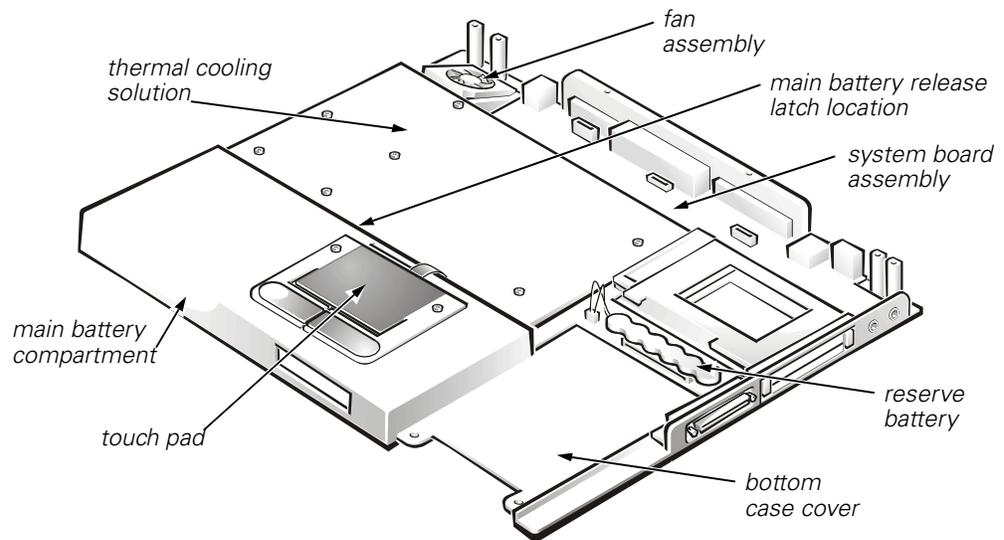

Figure 16. Bottom Assembly
3. Disconnect the reserve battery cable from the connector on the system board and lift the reserve battery (see Figure 16).